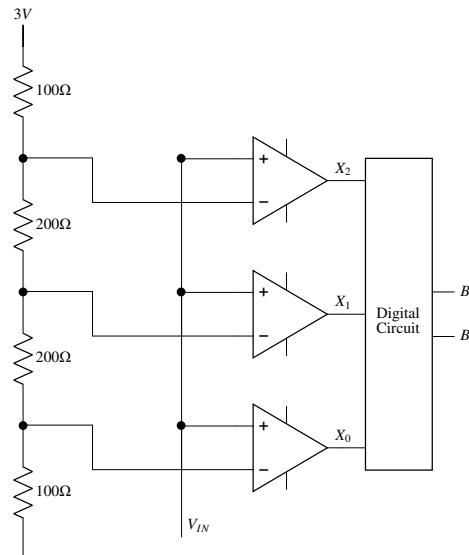

Fig. 3.29
45. A 2-bit flash Analog to Digital Converter (ADC) is given in Fig. 3.29. The input is $0 \leq V_{IN} \leq 3$ Volts. The expression of the LSB of the output B_0 as a boolean function of X_2, X_1 , and X_0 is